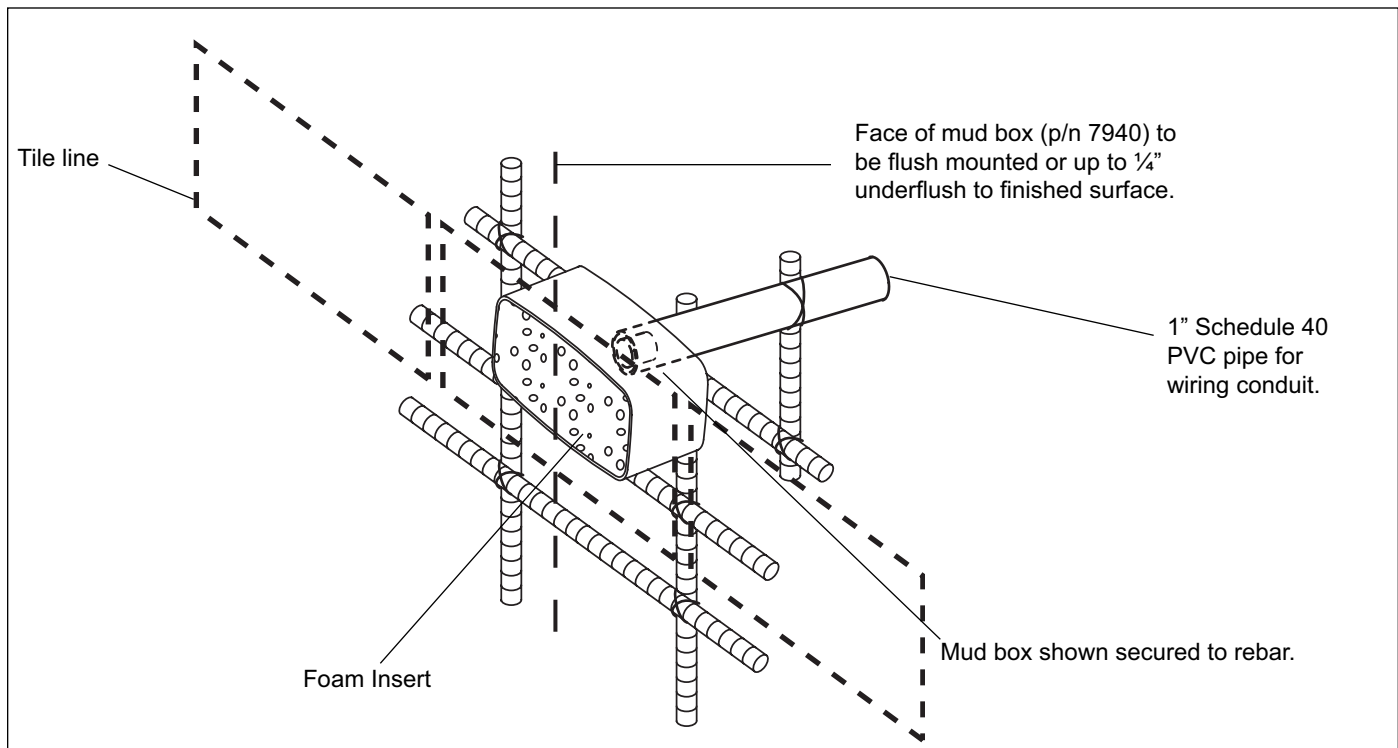

Figure 6. Vertical Wall Rough-in Installation
3. Apply a ¼" to ¾" diameter bead of silicone sealant around the mud box. Position and secure the mud box in place. Figure 6 shows mud box secured to rebar.